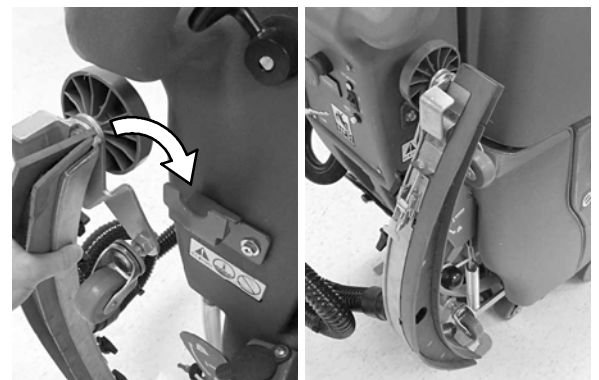

FIG. 23
13. When transporting or storing machine, remove the squeegee assembly and hang it on the storage bracket (Figure 23).